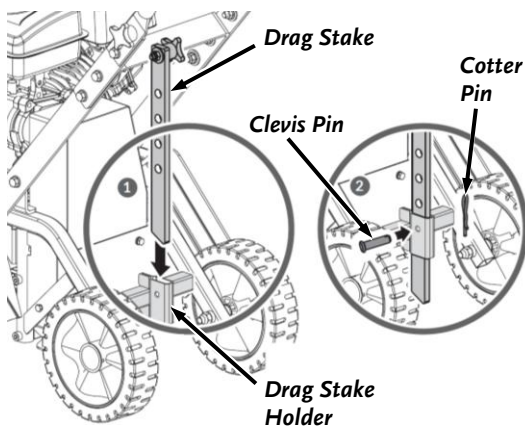

Figure 18
1. Remove the Cotter Pin and Clevis Pin (**Figure 18**).